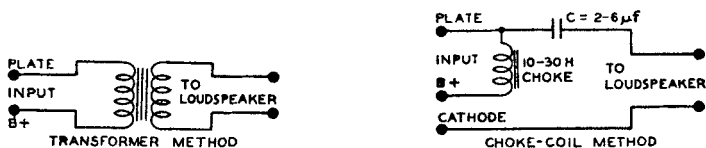

Fig. 63
Output-coupling devices are of two types, (1) choke-condenser and (2) transformer. The choke-condenser type consists of an iron-core choke with an inductance of not less than 10 henrys which is placed in series with the plate and B-supply. The choke offers a very low resistance to the d-c plate current component of the signal voltage but opposes the flow of the fluctuating component. A by-pass condenser of 2 to 6 μf supplies a path to the speaker winding for the signal voltage. The transformer type is constructed with two separate windings, a primary and a secondary wound on an iron core. This construction permits of designing each winding to meet the requirements of its position in the circuit. Typical arrangements of each type of coupling device are shown in Fig. 63. Examples of transformers for push-pull stages are shown in several of the circuits given in the CIRCUIT SECTION.